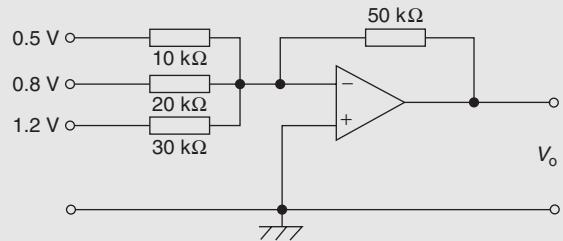

Figure 19.12
**Problem 8.** For the summing op amp shown in Fig. 19.12, determine the output voltage,  $V_o$ .